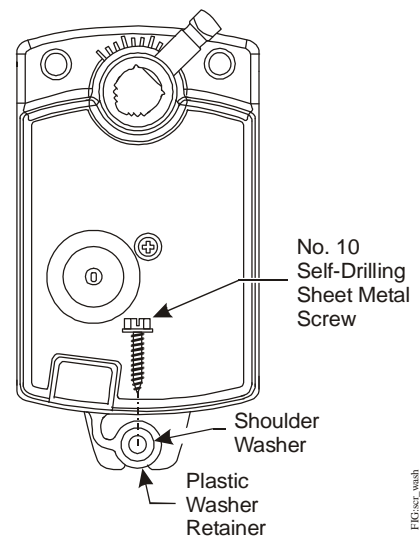

Figure 6: Inserting the Screw into the Shoulder Washer
7. Hold the actuator in place on the damper shaft, and insert the No. 10 self-drilling sheet metal screw through the shoulder washer as illustrated in Figure 6.